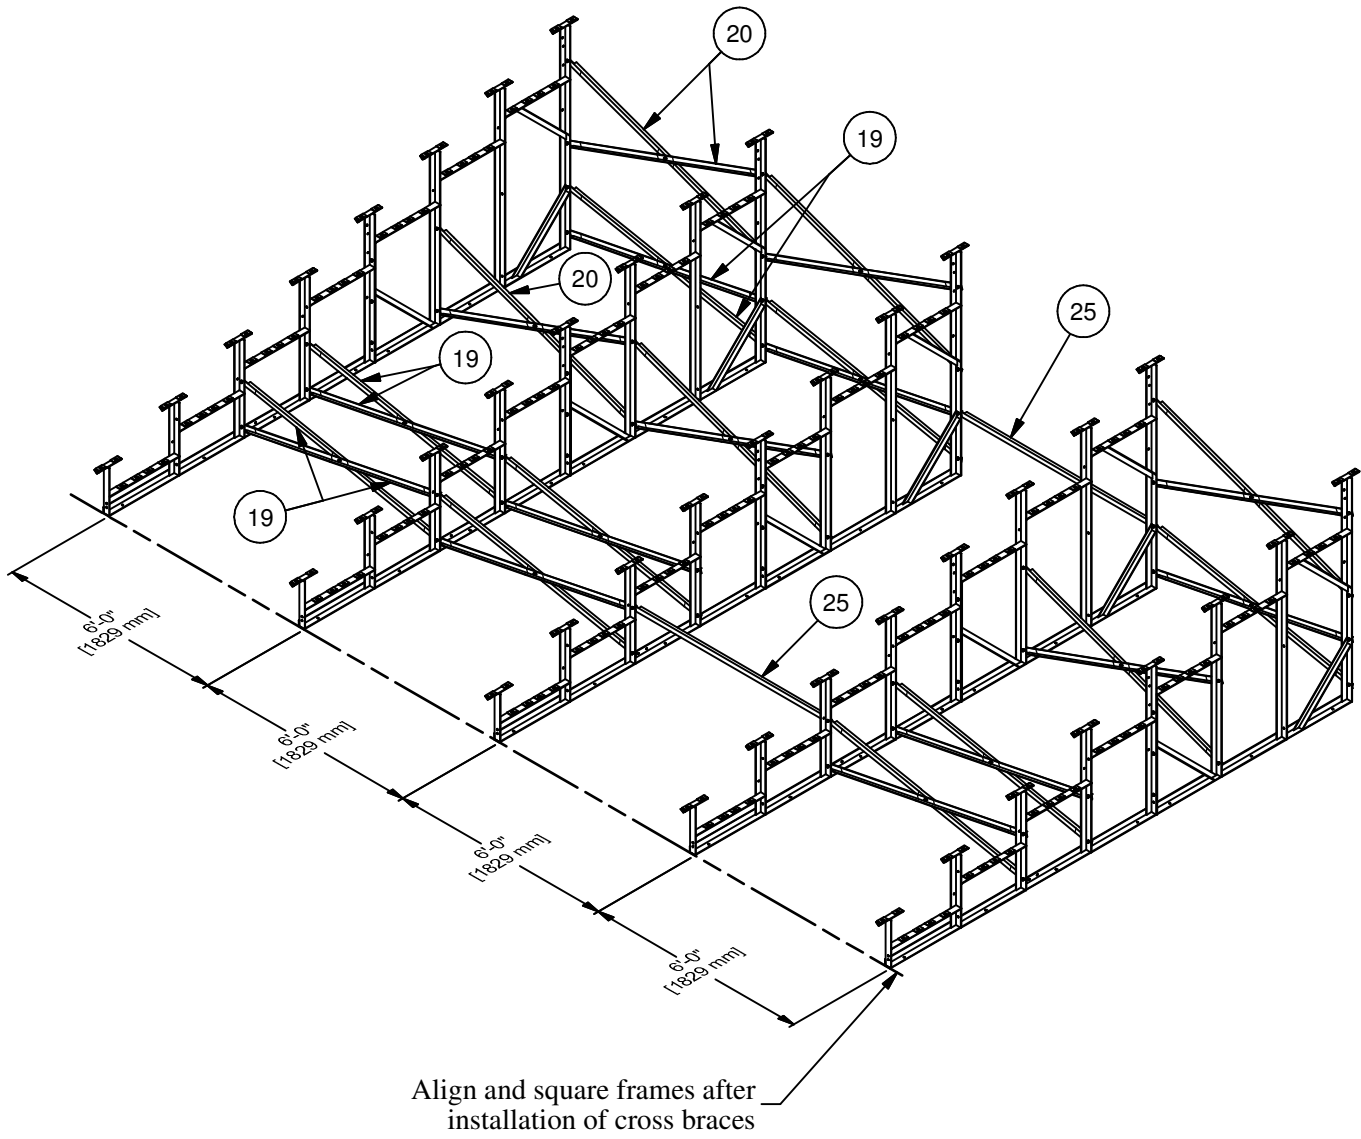
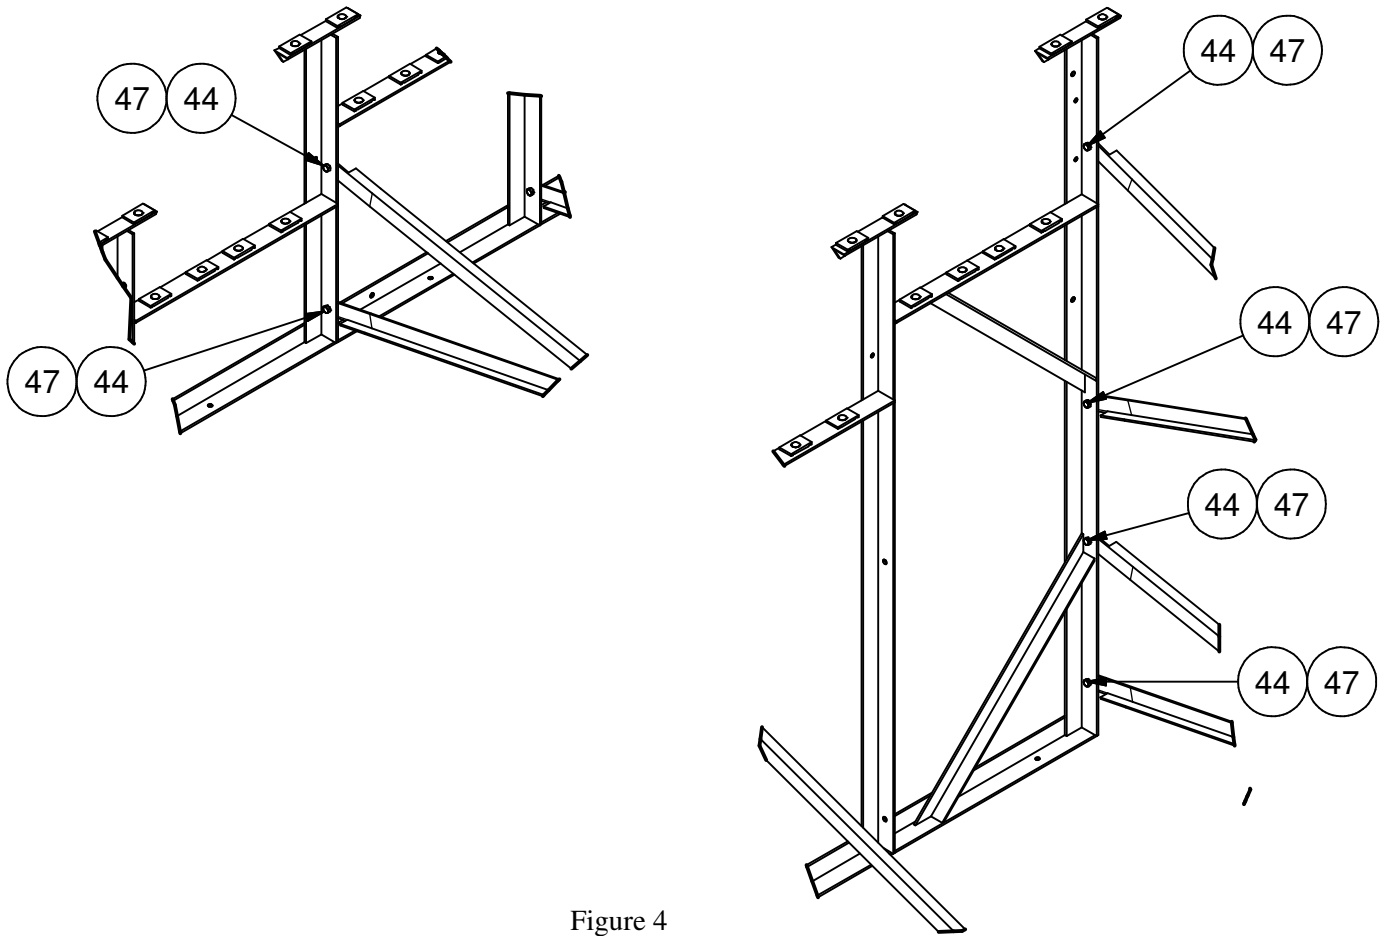

Figure 3
Figure 4
3. Lay out the Frame weldments approximately 6' apart. Refer to figure 3 for proper frame spacing. Install the brace sub-assemblies from step 2 using the 3/8" x 1" hex bolts and 3/8" whizlock nuts as shown in Figure 4. Cross braces are connected to the frames at verticals 3,4,6, and 8. Refer to figure 3 for item number and page 2 for brace angle length. NOTE: Cross braces are located in the end bays and either bay 2 or bay 3. Straight spacer braces are located in bay 2 or bay 3 at row 3 and row 8 only. If the cross braces are going to be located in bay 2, the straight braces must be located in bay 3. However, if the cross braces are going to be located in bay 3, the straight braces must be located in bay 2. After all braces are installed, square the frame and make sure the front of the frame is in line.